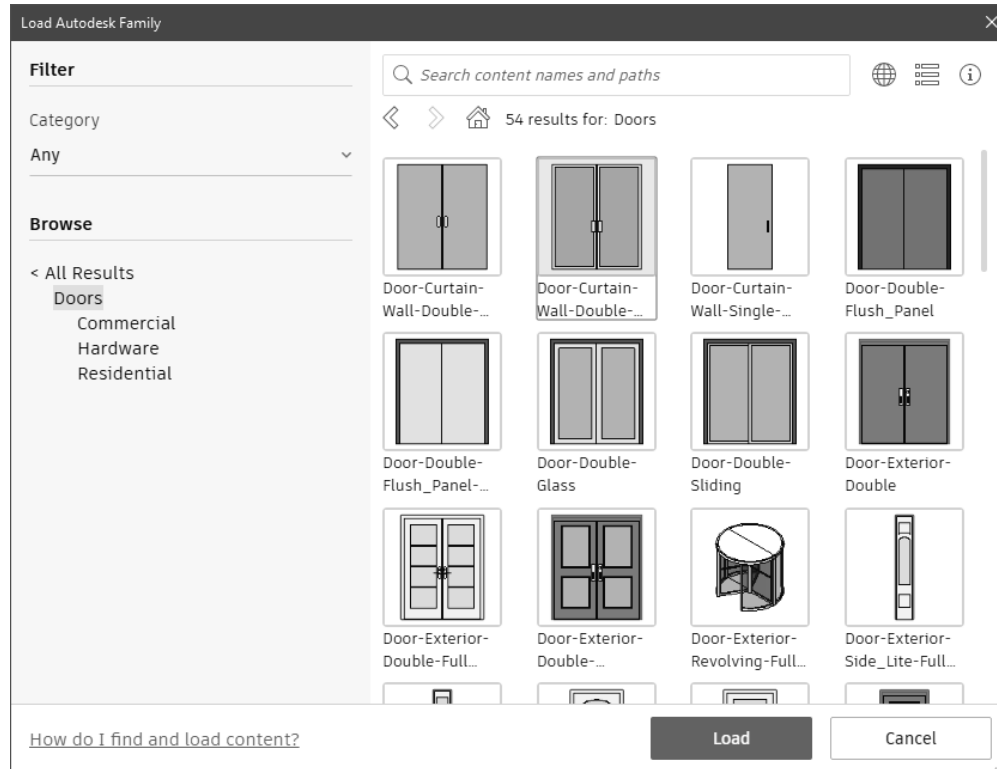

FIGURE 3-5.2 Door families on hard drive
4. Open the **Doors** category and then select **Door-Curtain-Wall-Double-Storefront.rfa**, and then click **Load** (Figure 3-5.2).